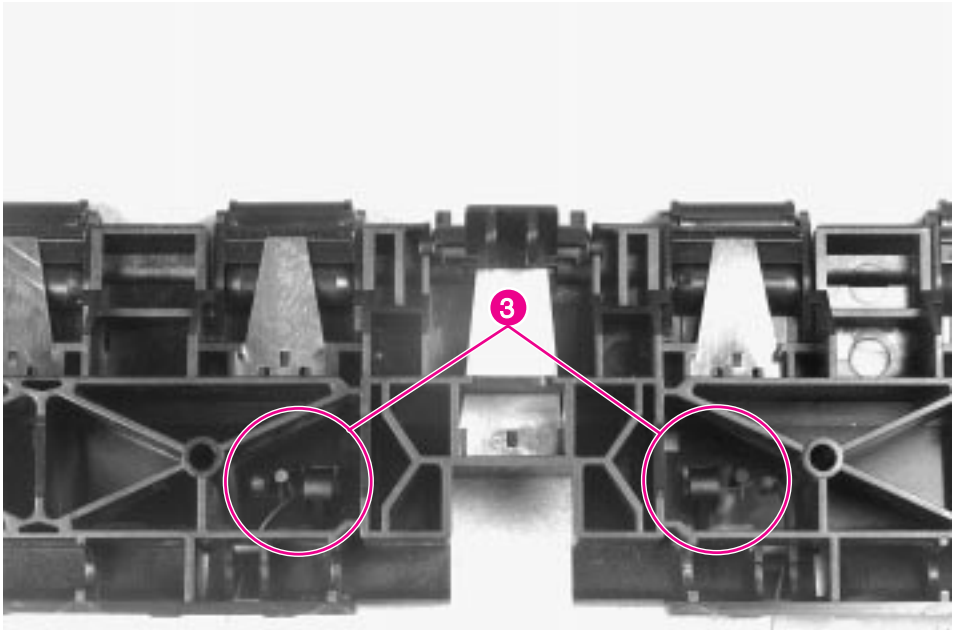

Figure 6-78 Mailbox with Stapler, Anti-Curl String Upper Connection
- 5** Disconnect the upper ends of the Anti-Curl Strings from the Jam Access Door Assembly (figure 6-78 on page 247, callout 3).